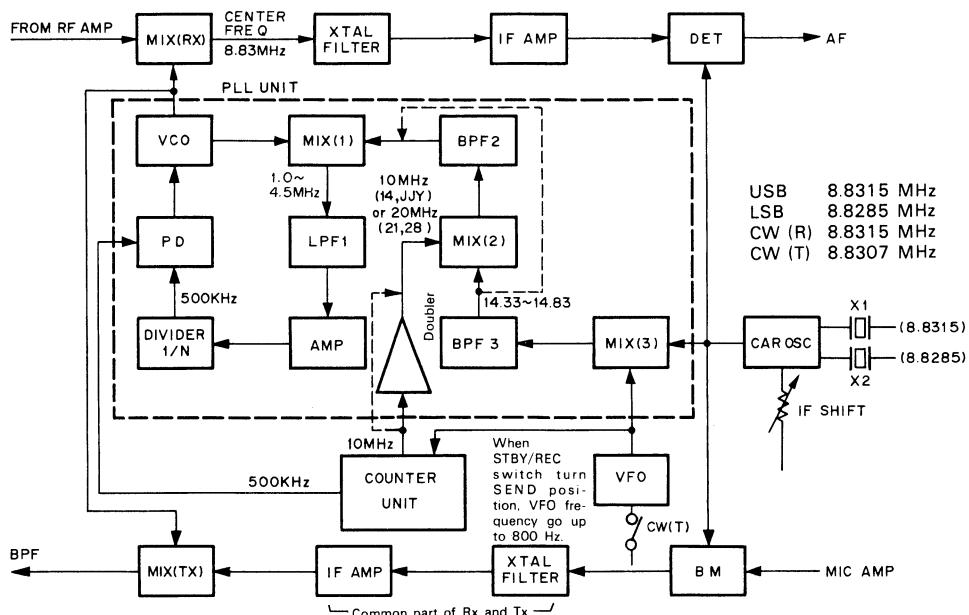

Fig. 1 Frequency configuration of TS-120V
The TS-120V employs single conversion with a unique PLL circuit, as shown in Fig. 1.
Referring to Fig. 1, MIX (3) is a double mixer circuit to mix CAR frequency with VFO frequency, while MIX (2) operates at other than 3.5 MHz and 7 MHz; it mixes 14 MHz, or 10
The TS-120V CAR oscillator is composed of one oscillator and two crystals for LSB, USB, and CW operation. The oscillator frequency in each mode is shown in Fig. 1.